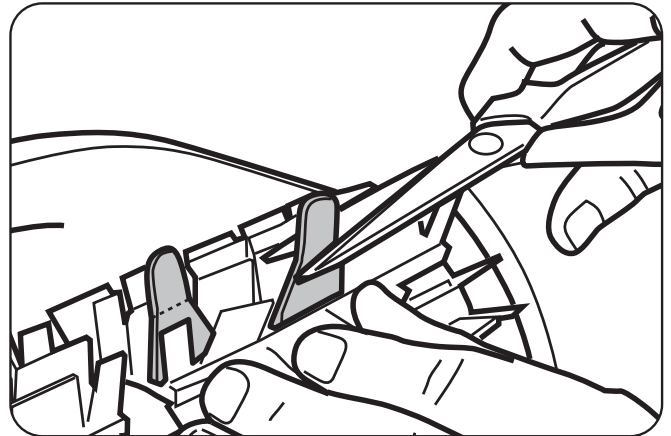

Figure 22. Cut Tabs
4. Use scissors to cut the tabs so they are no higher than the spikes (Figure 22).